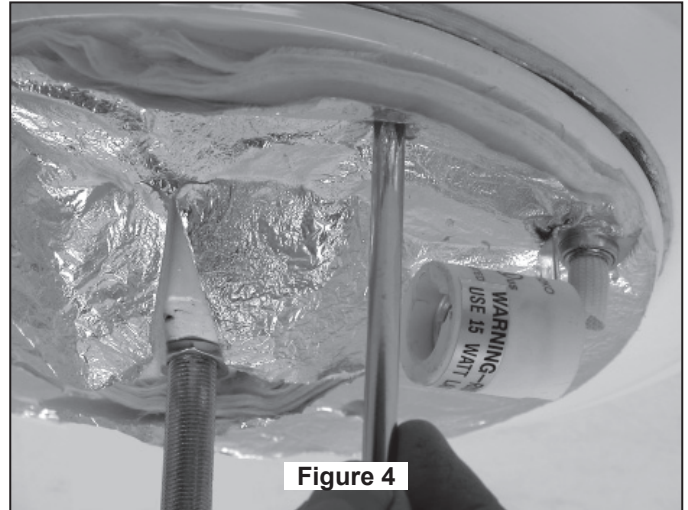

Figure 4
9. Carefully install the Upper Glass over the fan motor assembly. (Figure 4)
10. Install three Candelabra Bulbs (not included - 25 watts max) in each of the sockets on top of the motor assembly. (Figure 4)
4. Securely attach Downlight Support Plate Assembly to the Adapter Plate by tightening three screws with spring washers ( $\frac{5}{32}$ -32 x 8mm) provided with the fan. (Figure 4)
*Be sure to line up the curved slotted holes located on both Lower Housing Support Plates. (Figures 4 & 5) Purpose of these holes are for the convenience of removing and re-installing the blades without dis-assembling the Adapter Plate and Downlight Support Plate Assembly.*